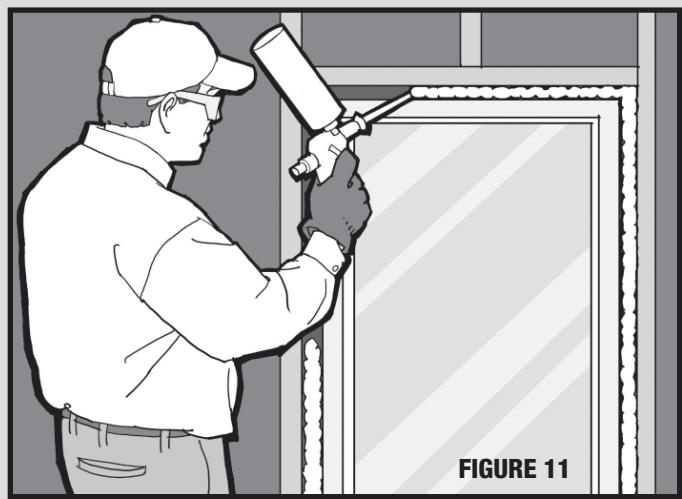

FIGURE 11
6.3.1. Starting at the header cavity on one side of the window, insert gun nozzle into gap. (Figure 11)